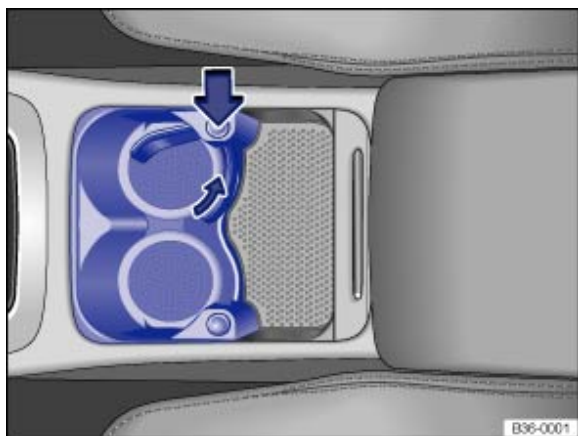

Fig. 202 In the front centre console: drink holders
- Press the button → Fig. 202 (large arrow) to open the holder.
- Turn the insert against the direction of the small arrow to move it out of the mount → Fig. 202 and remove it.